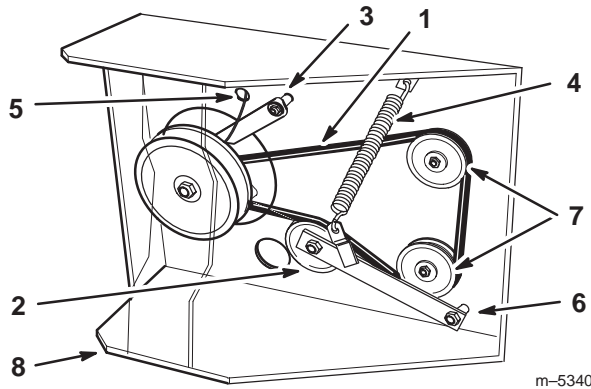

Figure 69
4. Remove clutch retainer from the engine deck (Fig. 69).
5. Unhook tension spring from side of frame (Fig. 69).
8. Torque pivot bolt to 35-40 ft. lb. (47-54 N.m). Install tension spring between idler arm and frame bracket (Fig. 69).
9. Install clutch retainer to the engine deck (Fig. 69).